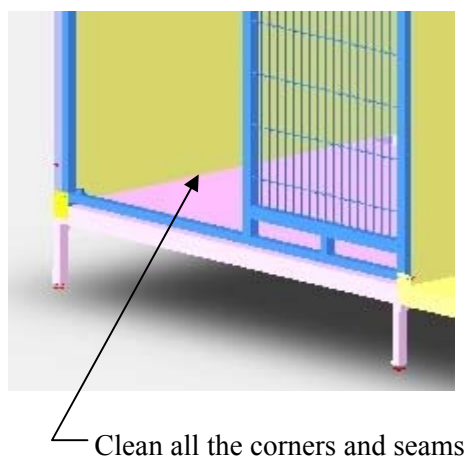

Figure 29
1. Use a primer or Isopropyl Alcohol (read health hazard information) to clean all the corners, cracks, edges, and areas that need to be sealed. This should remove any dust or oil that would inhibit good adhesion (**Figure 29**).